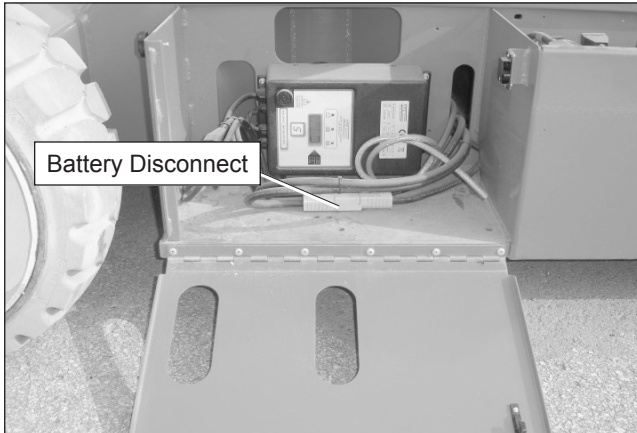

Figure 6.2 – Electrical Compartment
1. Make sure the battery disconnect inside the electrical compartment is plugged in (refer to Figure 6.2).
6. Visually inspect the battery charge indicator (refer to Figure 6.2).